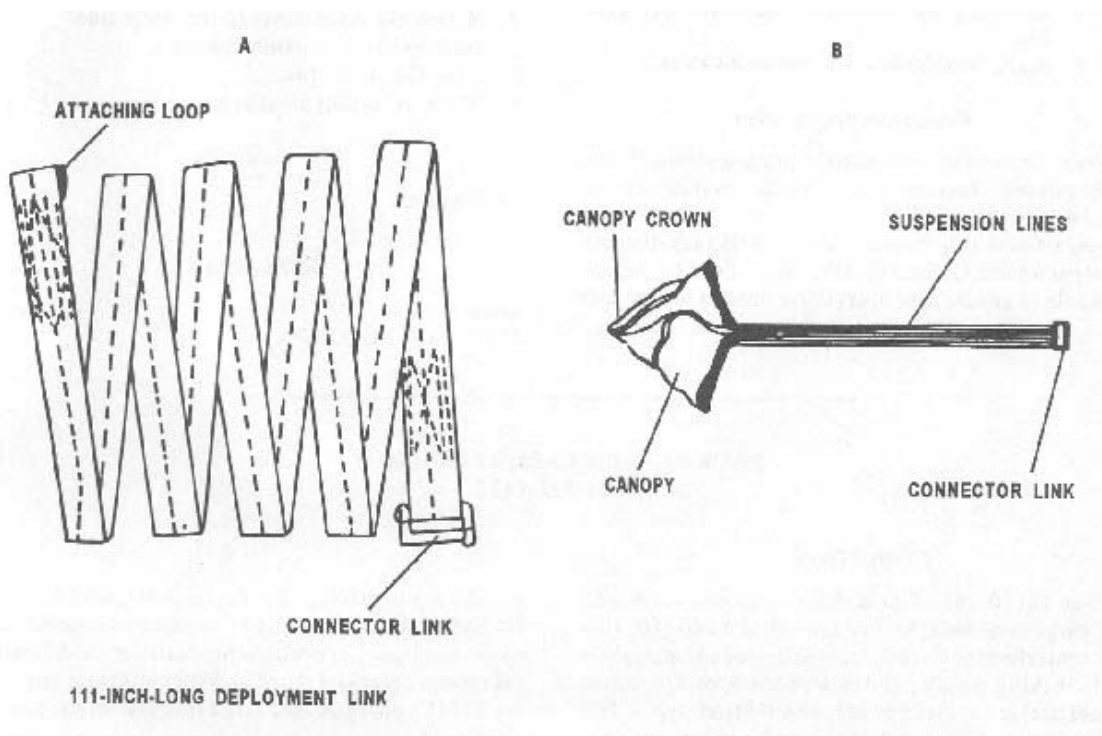

Figure 3-19
- (1) Partially invert the pilot parachute deployment bag. Position the inner loop immediately above the pilot parachute break cord attaching loop.
- (2) Make the break cord tie using a single length of ticket number 5 or 8/7 cotton thread. Secure the tie with a surgeon's knot and a locking knot.
- b. Insert the free connector link L-bar through the loop on one end of the 111-inch deployment line. (See Figure 3-19)